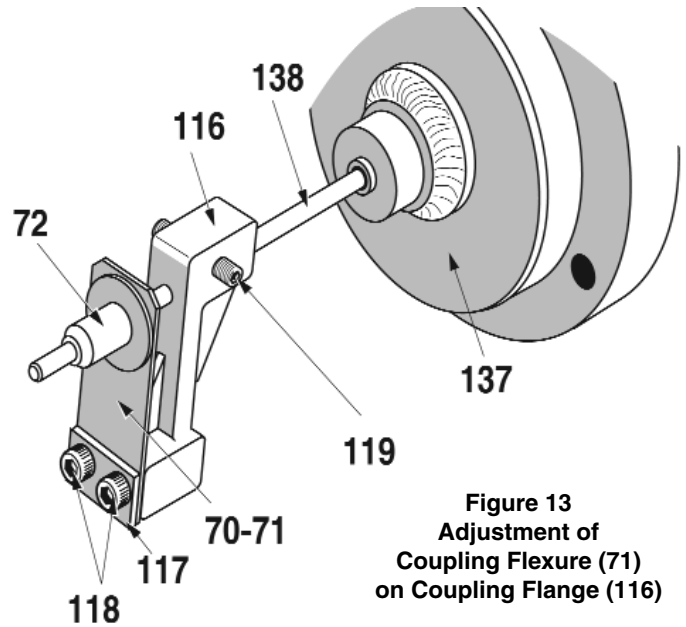
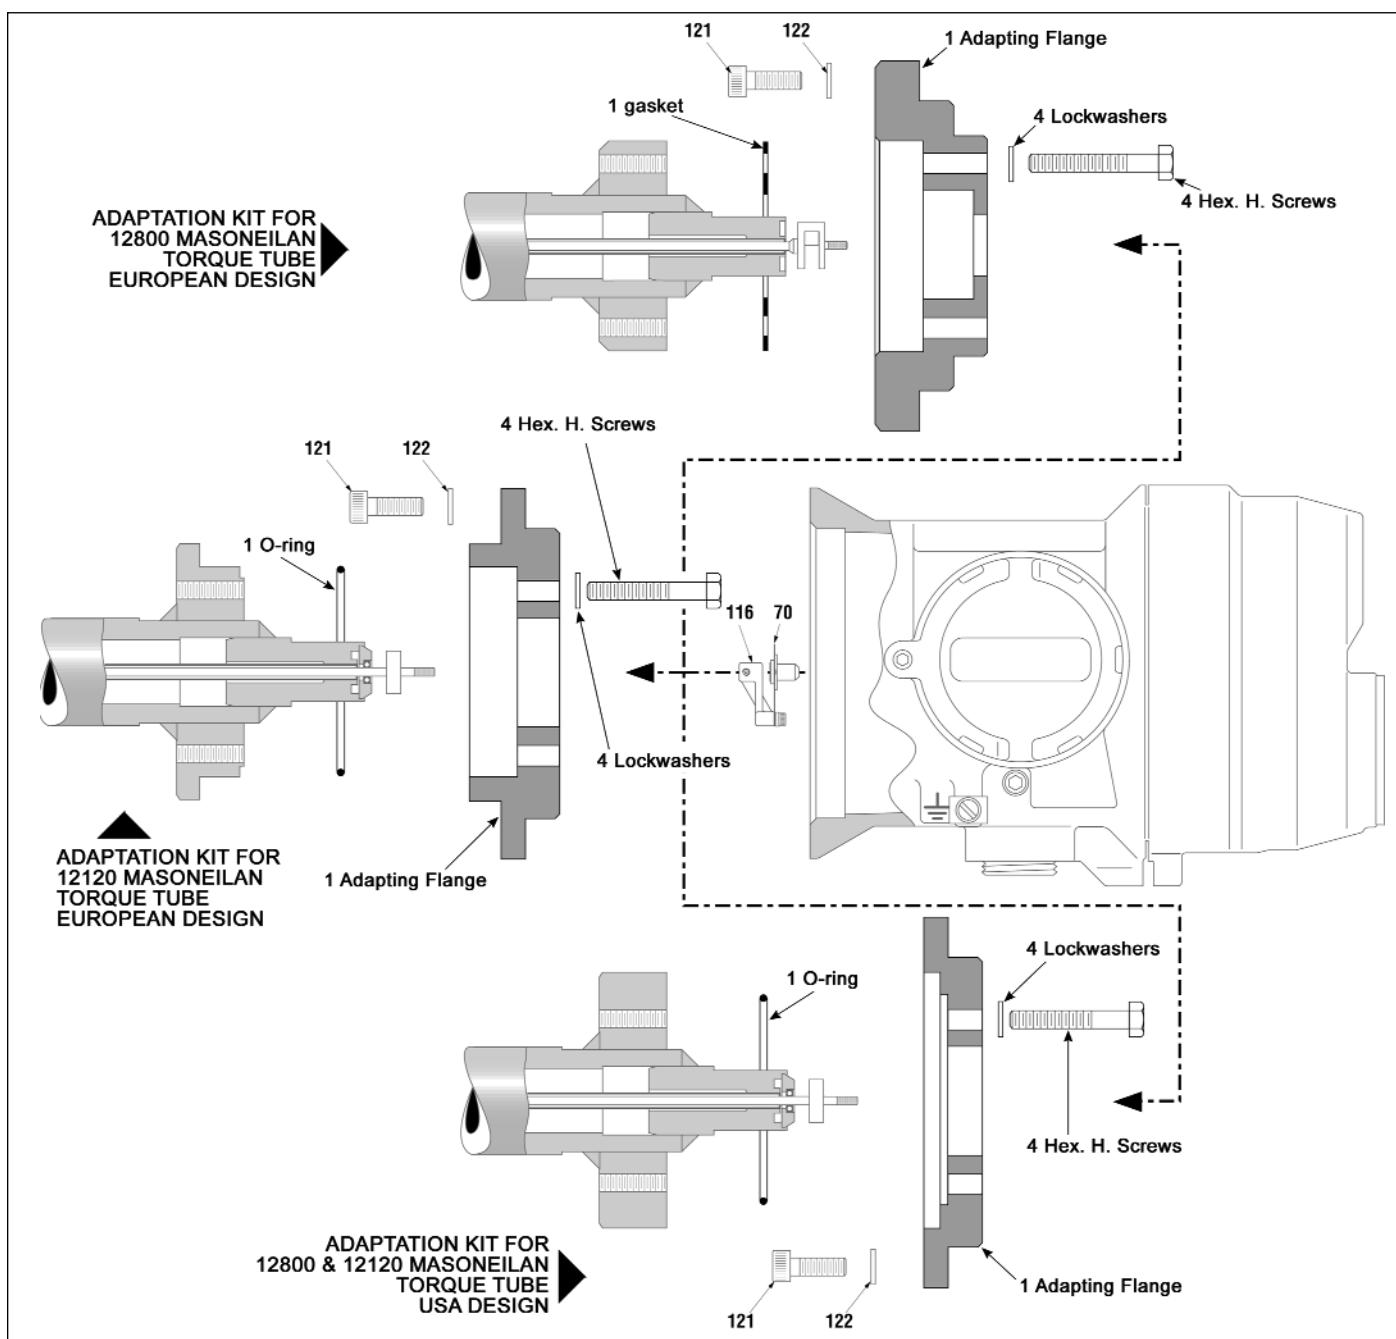

Figure 13
Figure 14 — Adaptation on 12800/12120 Torque Tube
1. **Do not remove the main cover (20) or the connection compartment cover (104) without first switching off the power supply or verifying that the instrument is installed in an intrinsically safe circuit or is not installed in an explosive atmosphere.**
2. **Operations described below may require you to open the mechanism compartment. Before returning the instrument to normal operation, verify that both covers and the plug are correctly reassembled with gaskets in good condition. Use only original Masoneilan parts. Pay particular attention to the plug (190), which includes a compressible gasket (192).**
6.1 Removing the DLT Case From the Torque Tube (Figures 13, 14, 15 & 21).
- a. Switch off power supply. Unscrew (106) until it disengages from the case and remove the cover (104) of the connection compartment. Disconnect supply wires from terminals (90).
- b. Remove cover (107) of the mechanism compartment. Using a 2.5 mm hex wrench, loosen screw (62) to uncouple the beam (54) from the torque rod.
- c. While holding the case to prevent it from falling, loosen the four screws (121), using a 5 mm hex wrench, and remove them along with the washers (122). Remove the case by pulling it along the axis of the torque tube while being careful to prevent any deformation of the coupling flexure (70).
- d. If the original case or an identical one will be reinstalled on the same torque tube, do not remove the coupling flange (116) from the torque rod. Also, do not disconnect the coupling flexure subassembly (70). As an alternative, loosen screws (119) using a 1.5 mm hex wrench and remove the coupling flange-flexure sub-assembly (116-70).
- e. If the torque tube is not the 12300 type, remove the DLT case adapter kit, if necessary. This kit includes a flange, a gasket, and screws, (see Figure 14).
- a. Mount the torque tube (137) on a support. The knife pivot at the back of the tube must be oriented toward the top.
- b. On the transmission rod (138), mount the coupling flange (116), coupling flexure S/A (70) [incl. flexure (71), pin (72) and washer (73)], flange (117) and its two **loosened** screws (118). Tighten screws (118) so that the sub-assembly is free to slide on the transmission rod, (see Figure 13).
6.2.2 12120/12800 Series Torque Tube (See Figure 14)